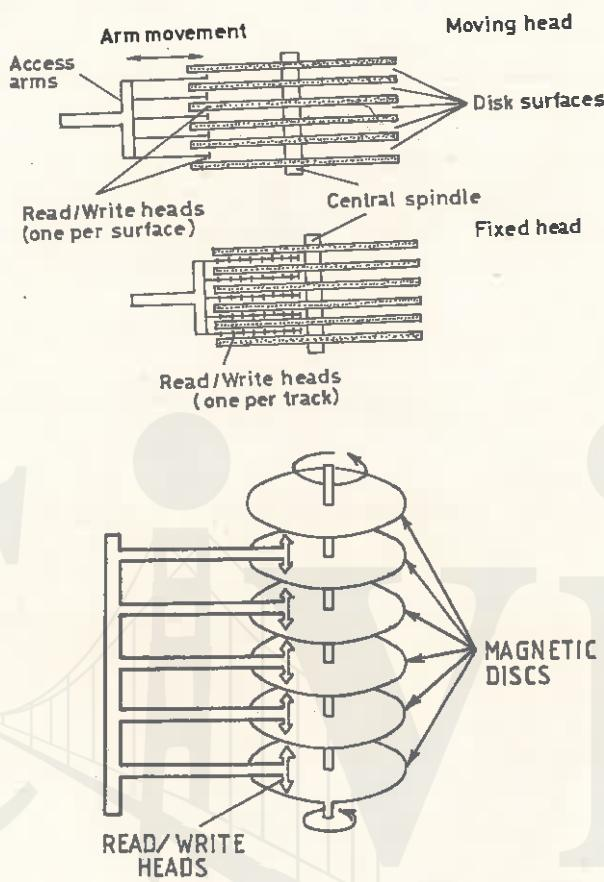

Fig. 36.12. Read-write head units for magnetic disk packs.
- There are two types of *read/write head units* for magnetic disk devices – a *moving head unit* and a *fixed head unit* (Fig. 36.12).